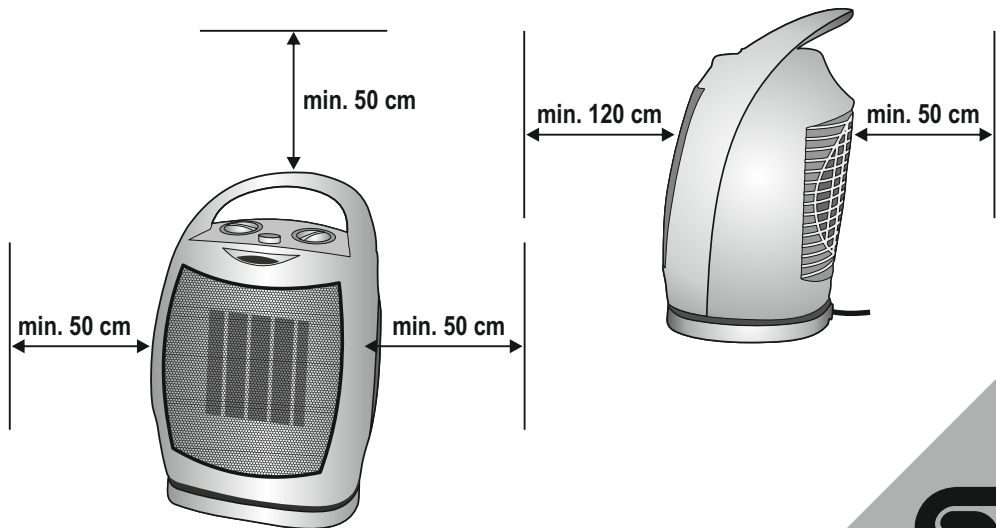

figure 2 • 2. ábra • 2. obraz • figura 2. • 2. skica • 2. obrázek • rys. 2.
2. Never locate the unit directly in corners and observe the minimum mounting distances indicated in Figure 2. Always observe the health and safety regulations valid in the country of use.
3. Set the appliance on a stable and horizontal surface. The free flow of warm air must be ensured for proper operation, therefore, please note the minimum installation distances indicated in **Figure 2.**
4. Verify that the unit's mode selector (3) is in the OFF "0" position.